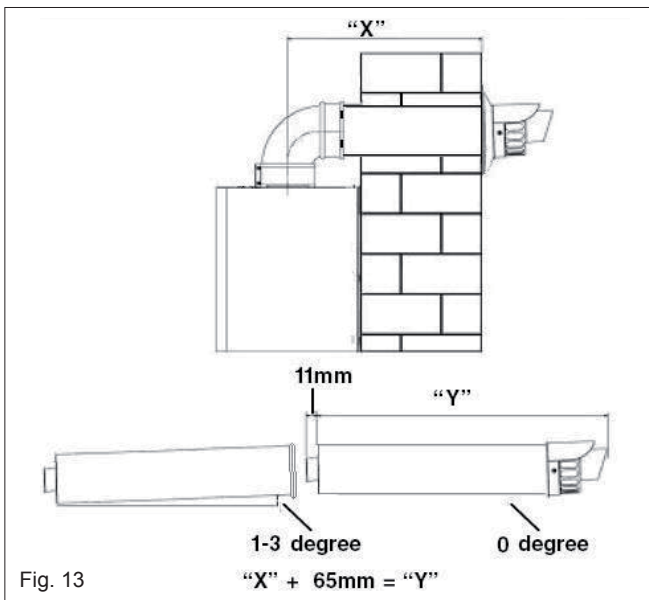

Fig. 13
Using the template provided (A), mark and drill a 125mm hole for the passage of the flue pipe. The hole should be drilled to ensure any condense fluid that forms, is allowed to drain back to the appliance (see fig. 13). The fixing holes for the wall-mounting bracket should now be drilled and plugged, an appropriate type and quantity of fixing should be used to ensure that the bracket is mounted securely. Once the bracket has been secured to the wall, mount the appliance onto the bracket.
Carefully measure the distance from the centre of the appliance flue outlet to the edge of the finished outside wall (dimension X). Add 65mm to dimension X to give you Dimension Y (see fig 13). Measure dimension Y from the terminal end of the concentric flue pipe and cut off the excess ensuring any burrs are removed. Pass the concentric flue pipe through the previously drilled hole. Fit the flue bend to the boiler flue outlet and insert the concentric flue pipe into the flue bend ensuring the correct seal is made. Using the clamp, gasket, and screws supplied, secure the flue bend to the appliance flue spigot.
Using the dimensions given in fig. 13 as a reference, mark and cut a 125mm hole in the ceiling and/or roof.